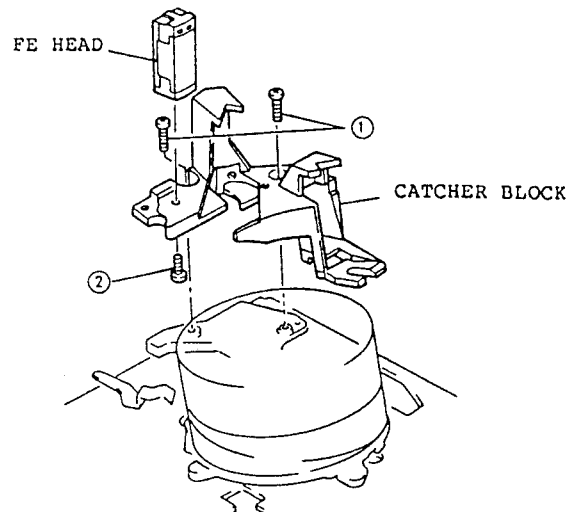

Fig. 2-91
1. Remove two (2) screws holding the catcher block. (See Fig. 2-91)
2. Remove one (1) screw at the back of the catcher block which holds the FE head.
1. Remove the catcher block. (See Fig. 2-91)